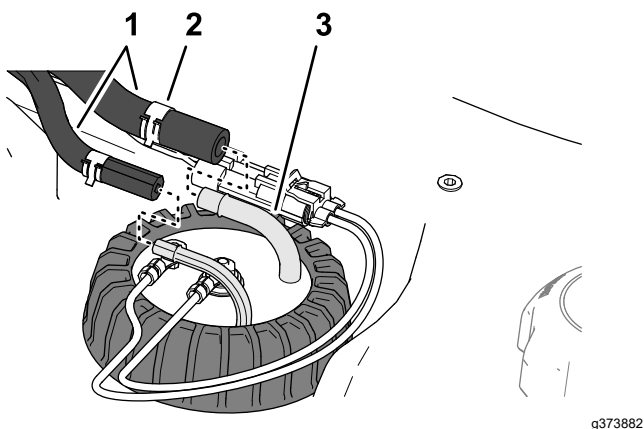

**Figure 123**
3. Remove the 2-socket connector of the fuel-sender harness from the 2-pin connector of the machine wire harness (Figure 123).